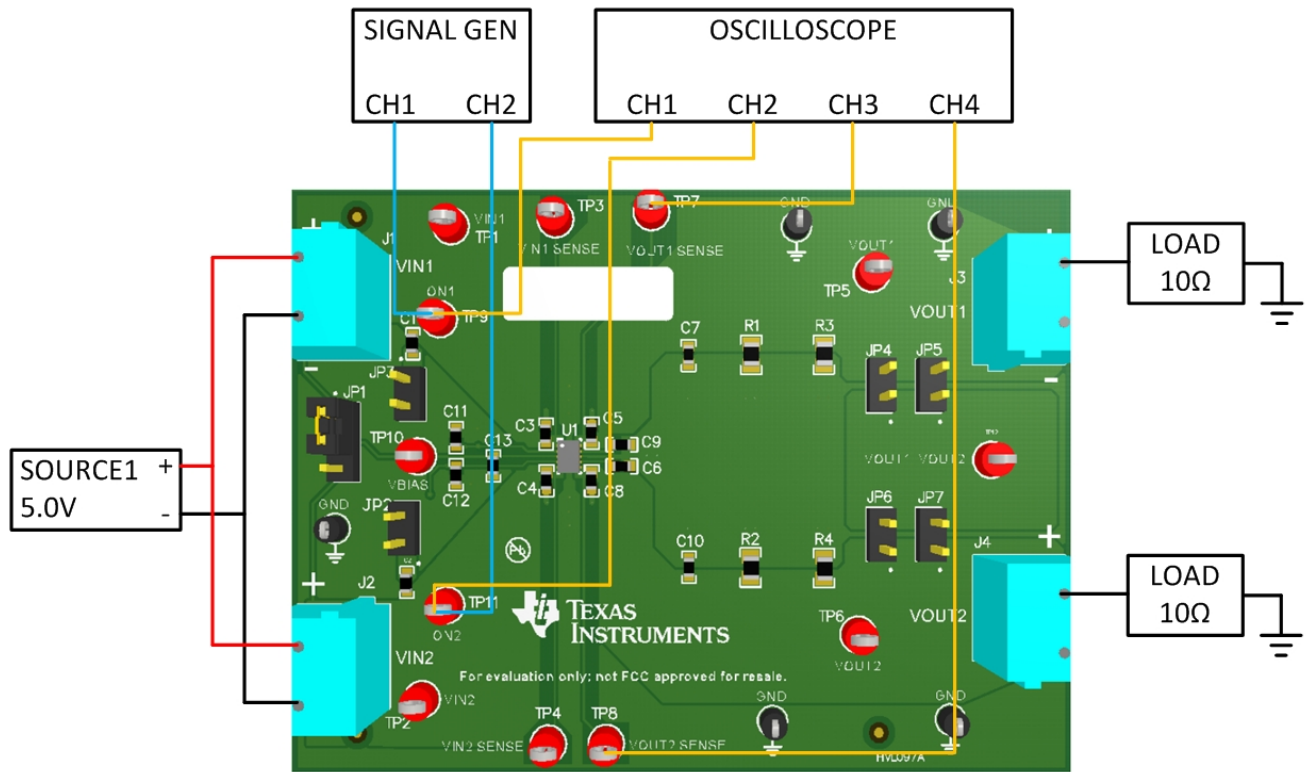

Figure 5. TPS22968Q1EVM / TPS22968NQ1EVM Recommended  $T_R$  Test Set Up
2. Set up the EVM per Figure 5